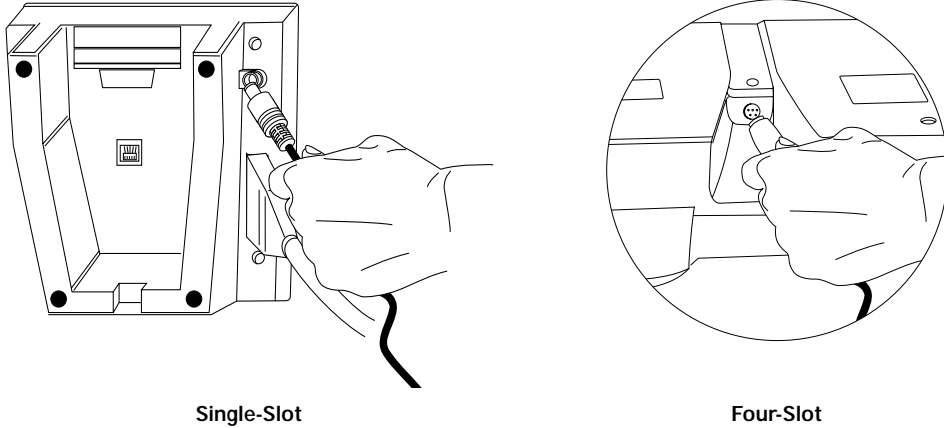

Figure 2-3. Plugging Power Supply into Single-Slot and 4-Slot Cradles
3. Connect the power supply cord's round connector to the cradle's power port (Figure 2-3).